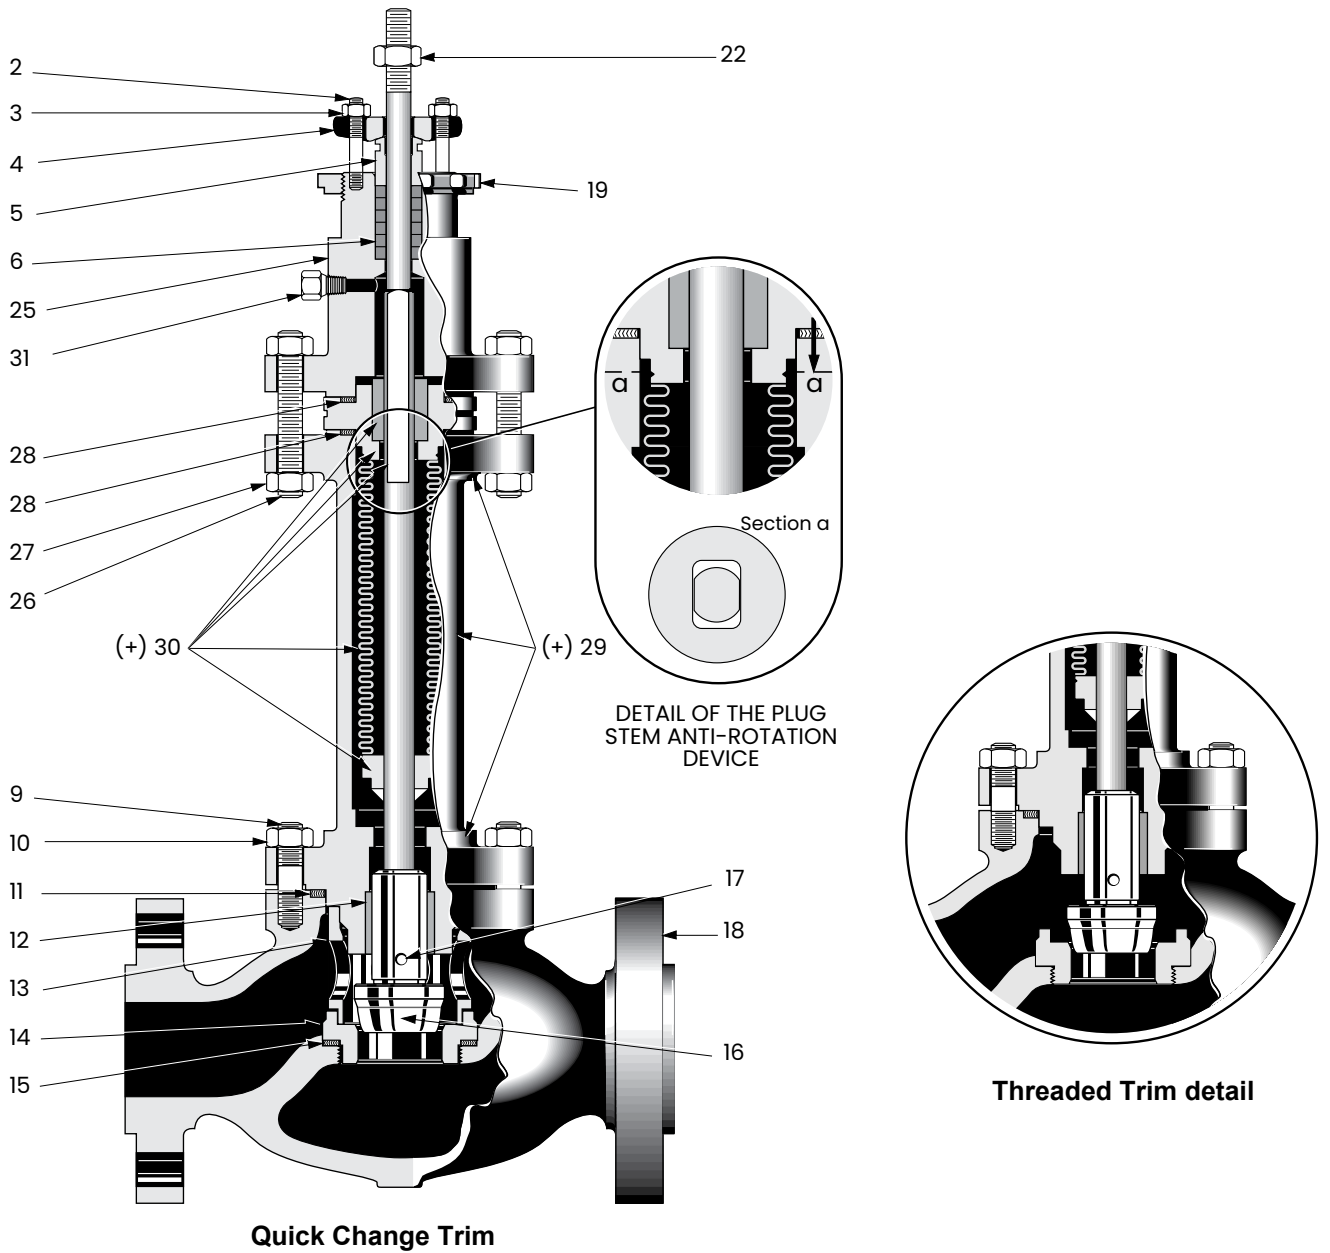

Figure 19 — 21000 BS Valve
10.1 Bellows Valve Disassembly (Figure 19)